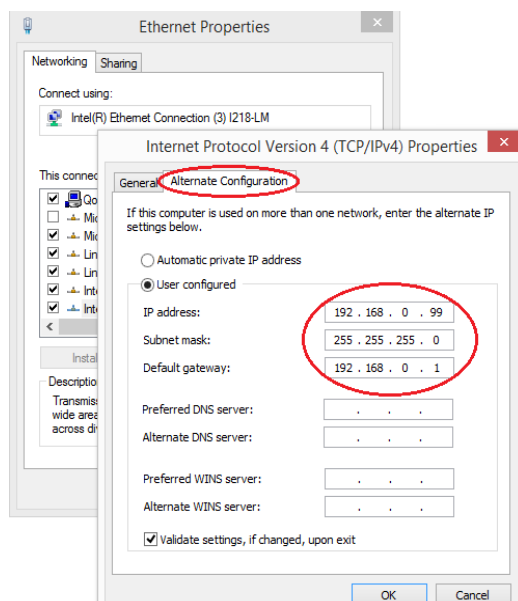

Figure 1-6. Internet Protocol Version Properties Window
3. Enter the IP address, Subnet mask, and Default gateway as shown in Figure 1-6.